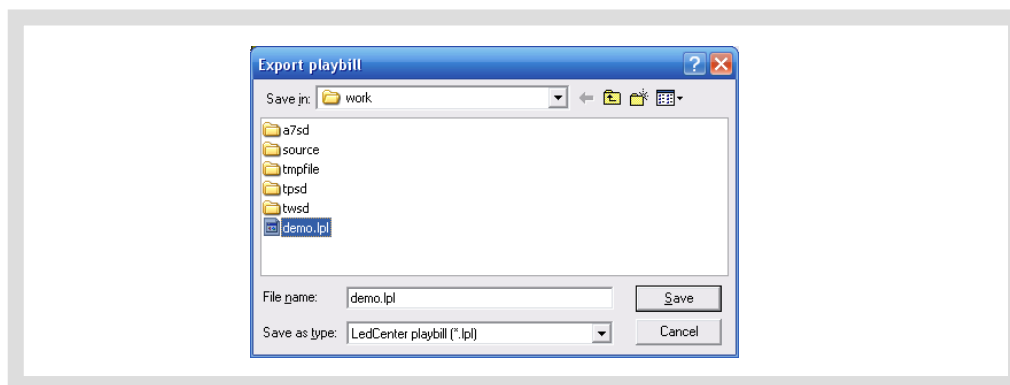

Figure52 Dialog box of export playbill
- 2) Select export position in the dialog box "Export to playbill" (as shown in Figure52) and enter the export file name. Click "Save". The playbill file of current panel will be stored to the file.